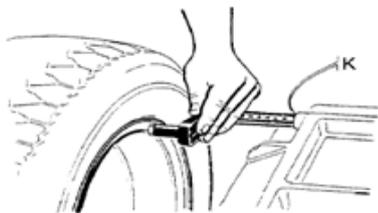

Fig.1
- Move gauge to touch edge of rim (Fig.1), read the value of distance, press **a+** and **a-** to change, set “a” value.